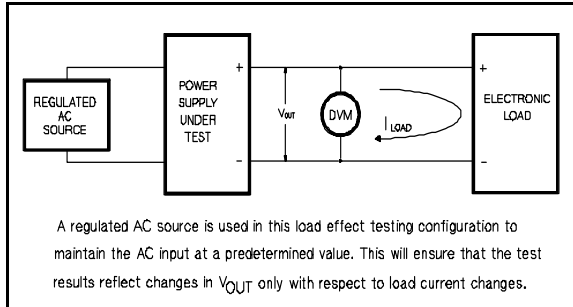

Figure A-5. Basic Test Setup
- a. Connect the test equipment across the output of the +20 V supply as shown in Figure A-5. Operate the electronic load in constant current mode and set its current to the full rated value of the +20 V supply. Input off the electronic load.
- b. Connect the test equipment across the output of the +20 V supply as shown in Figure A-5. Operate the electronic load in constant current mode and set its current to the full rated value of the +20 V supply. Input off the electronic load.
- Connect the test equipment across the output of the +20 V supply as shown in Figure A-5, but replace the DVM with the oscilloscope. Operate the electronic load in constant current mode.
- Connect the test equipment across the output of the +20 V supply as shown in Figure A-5.